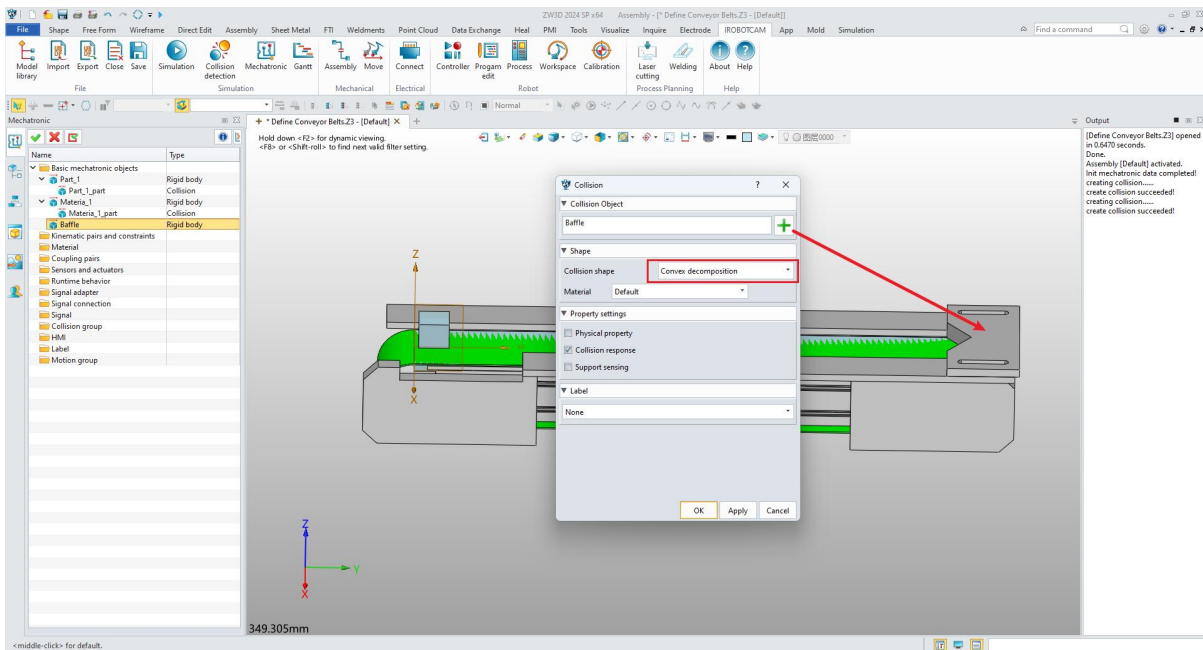

Figure 6-11: Add Barrier Plate Collision Body
- Click OK. (This process needs to be patient for a while) (Figure 6-11)